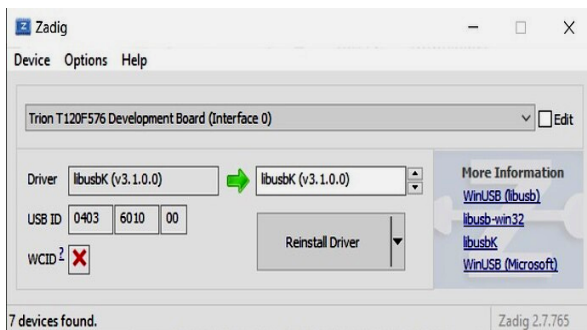

Fig. 10. Zadig software for libusbK driver installation
1. Connect the debugger and go to the la0 tab to configure the trigger (Fig. 10).